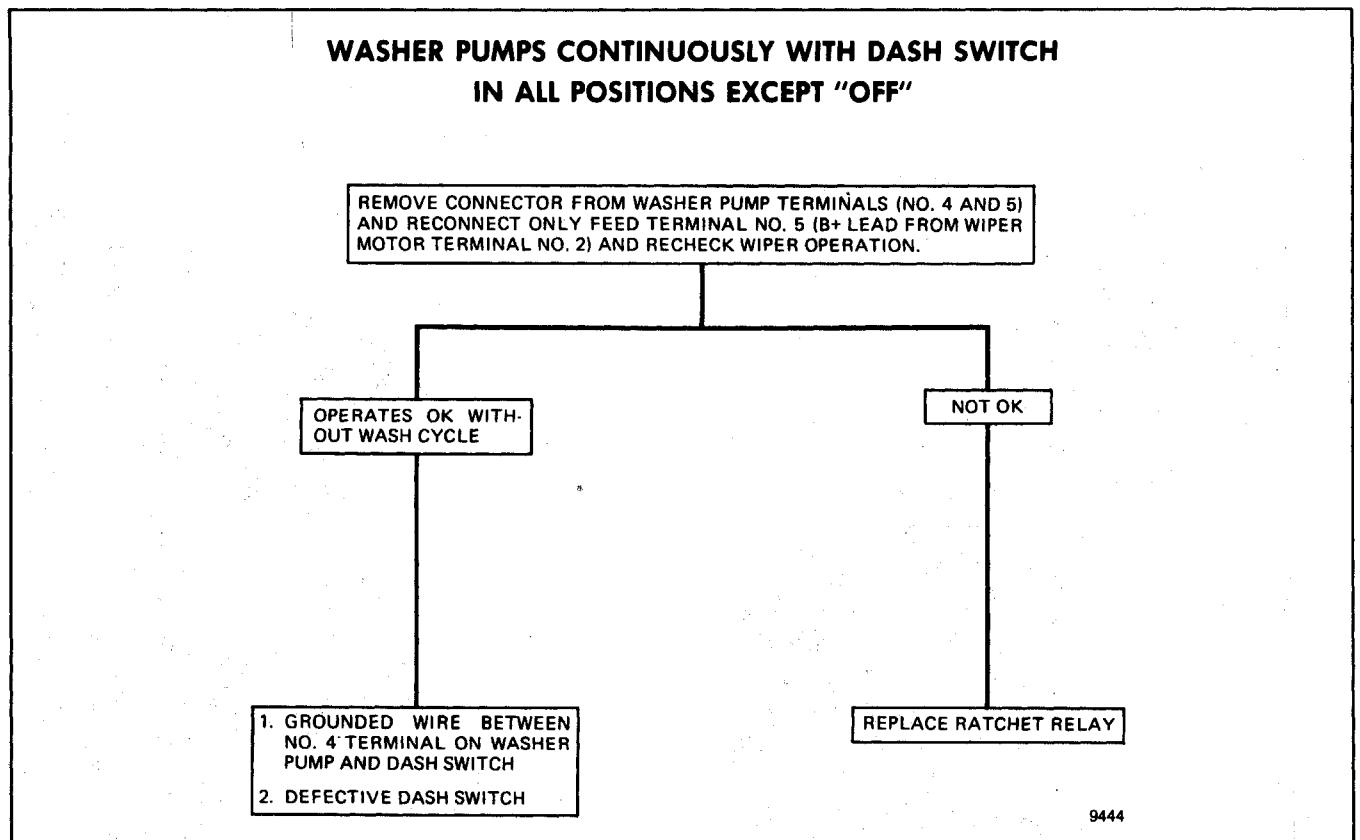

Fig. 2-148-Modified Pulse Washer System Wiper Diagnostic Chart - Condition 4
4. Washer pumps continuously with dash switch in all positions except "OFF".	Fig. 2-148